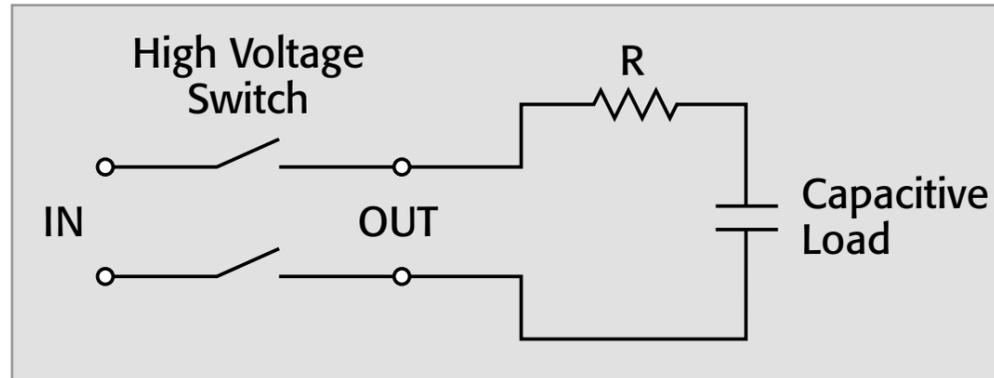

Figure 5. Limiting capacitive reaction current
The surge current from a capacitive load is  $i = C \, dV/dt$  and must be limited to less than the rated current to protect the relays. **Figure 5** shows a series resistance (R) used to limit the charging current. The resistor must be able to withstand the applied voltage; otherwise, the high voltage may arc across the resistor, damaging the device under test and the switch card. All components must be rated for peak voltage and current.